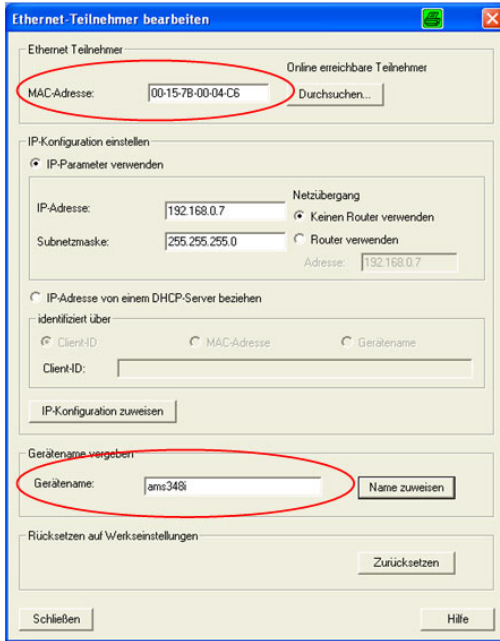

Figure 9.15: Linking of the device name to the MAC ID of the participant
- Assignment of MAC address - IP address -individual device name ((see figure 9.15))